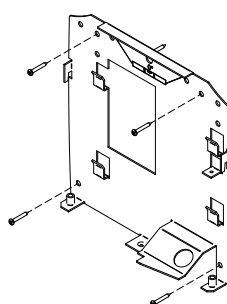

FIG. 3
Note: When installing on a gypsum wall, ensure that at least two anchor bolts are set in a beam of wood or steel. Where possible, it is recommended to install a wooden beam behind the gypsum (see FIG. 3). If you have no choice but to fix the 2 other screws in a hollow wall, use 1/4" wing type bolts.
3. Insert the other anchor screws in the appropriate holes. If needed, you can use the extra holes to firmly hold the back plate. (FIG. 3)
- Eject sensor from the support by pushing the little tabs located on each side of the sensor. (FIG.3)